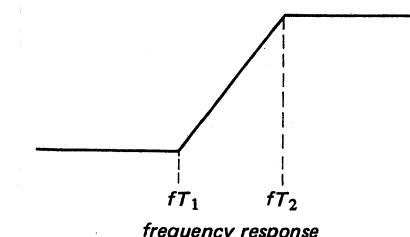

Fig. 4 High-Level Stage Variable Filter
1) High-Level Stage (Refer to Fig. 4)